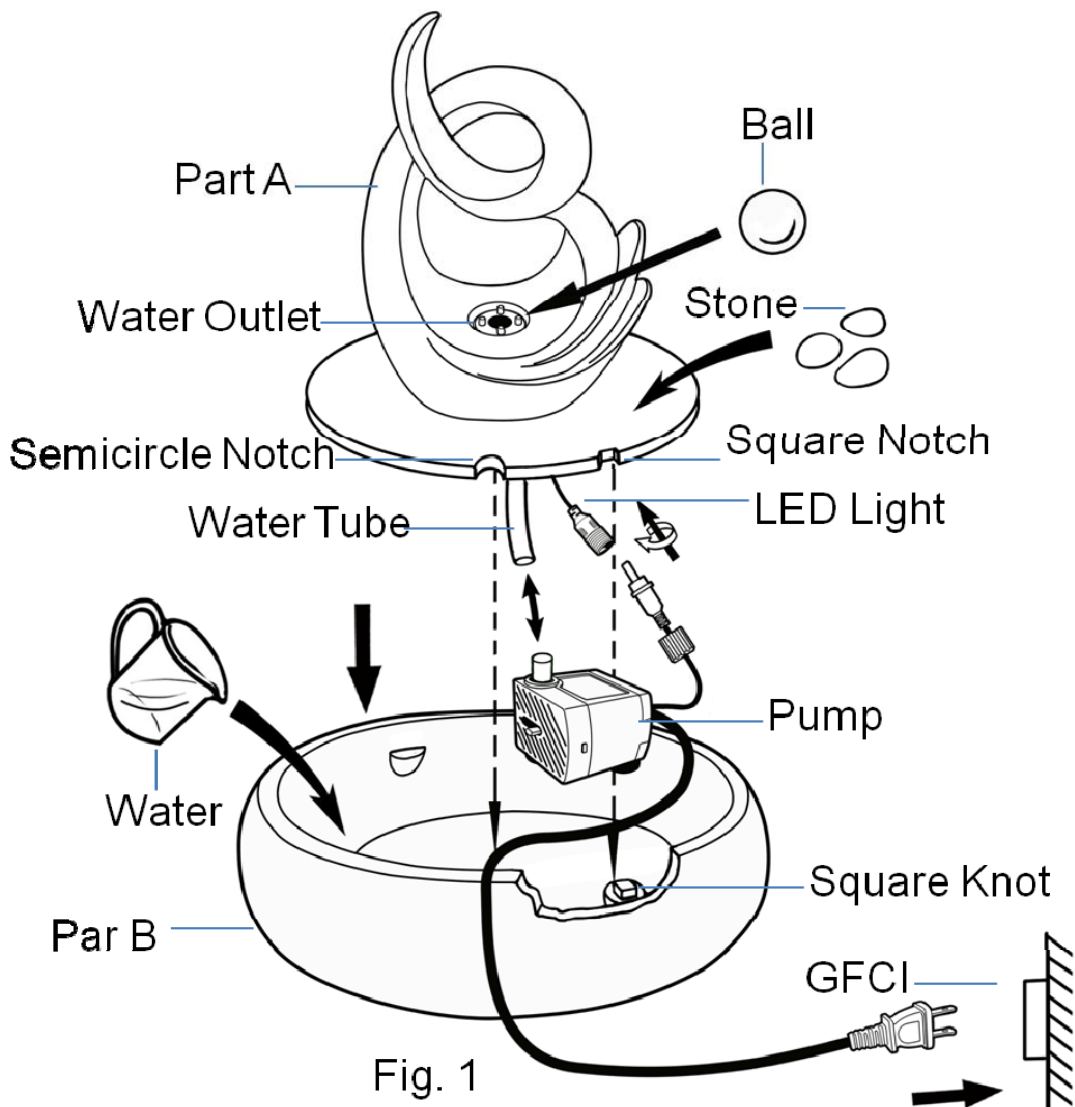

Fig. 2
5. If the pump runs with low or high water circulation Check and adjust the regulator dial or slide on the front of the pump. Adjust the dial/slide towards (+) to increase water flow or towards (-) to decrease water flow. (Fig. 2)